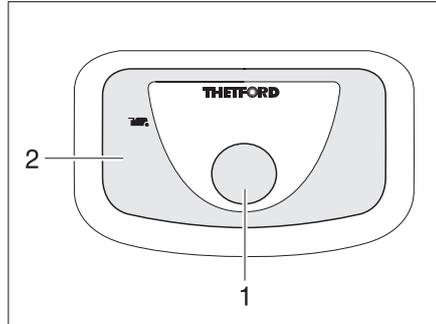

Fig. 104 Flush button/indicator lamp Thetford toilet
- ▶ For flushing, press the blue flush button (Fig. 104,1).
- ▶ After flushing close the sliding trap. To do this push the slide lever in a clockwise direction. The indicator lamp (Fig. 104,2) goes on whenever the Thetford cassette has to be emptied.